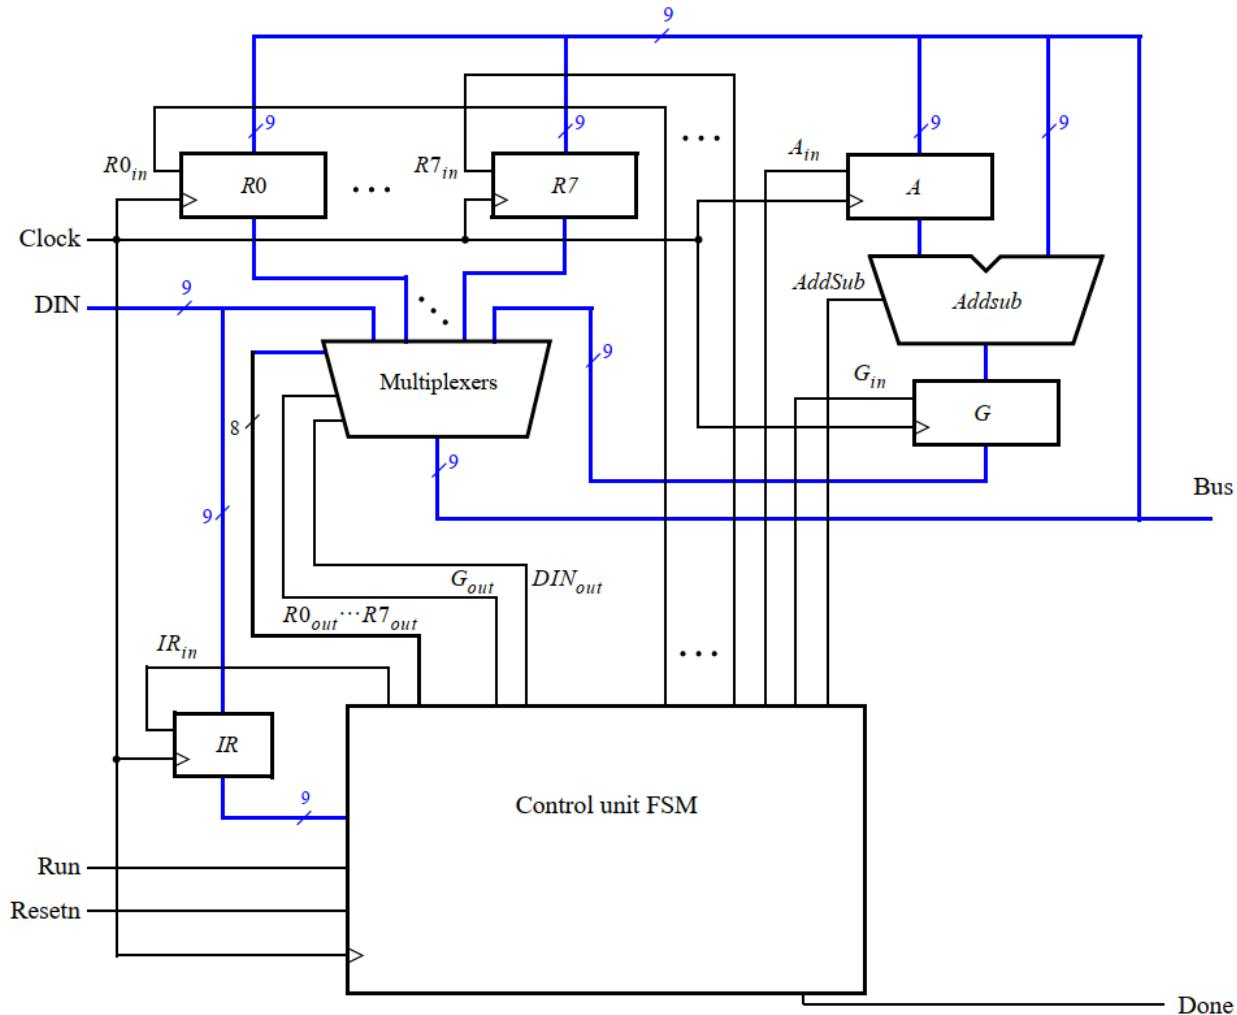

Figure 1: A simple processor.
Requirement: Design and implement a simple processor which is shown in Figure 1.
- To describe the circuit given in Figure 1, write a top-level System Verilog entity to connect all the subsystems above. A suggested skeleton of the System Verilog code is shown.